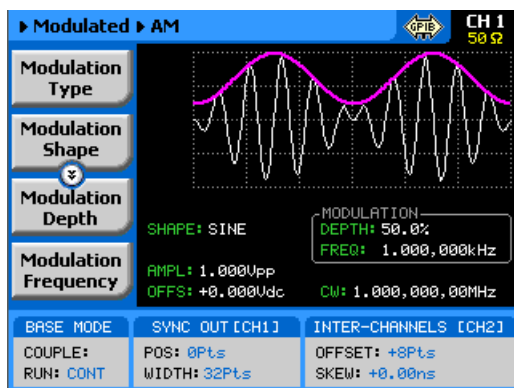

Figure 3-41, AM Menus
The AM function enables amplitude modulation of a carrier waveform (CW). The carrier waveform is modulated by an internal waveform, normally referred to as envelope waveform. The envelope waveform can be selected from sine, triangle square or ramp shapes. When AM is selected, the menus that are associated with AM become accessible. These are shown in Figure 3-41.